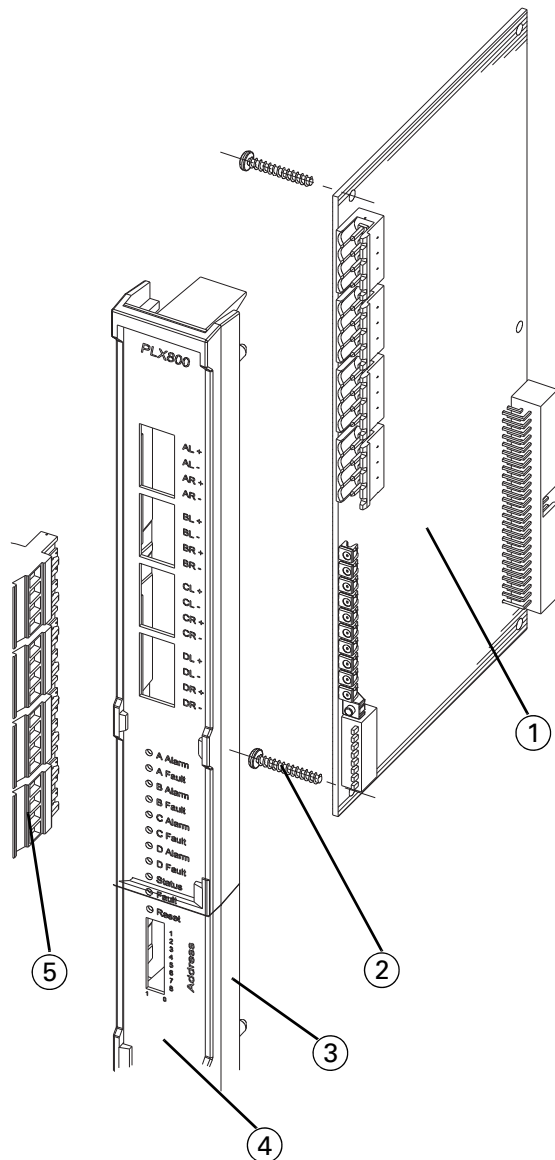

Fig. 26: Slot Card Assembly
- 1 Assemble the slot card components as shown in Fig. 26.